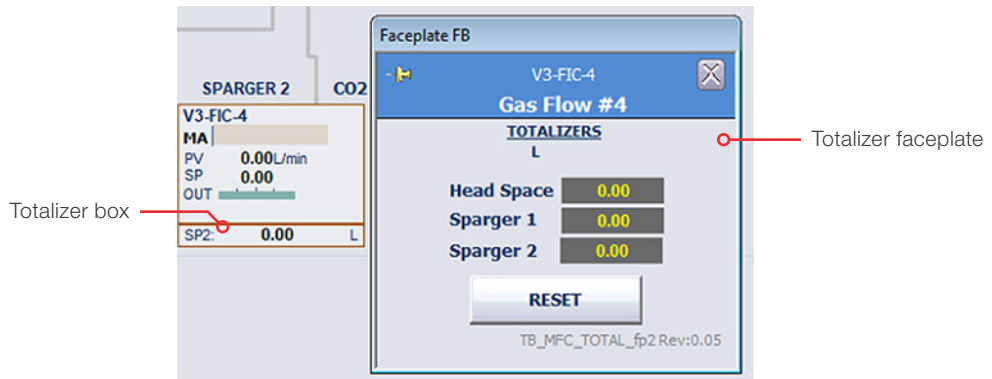

Figure 2.10. Totalizer faceplate for Gas Flow #4.
The lines connecting the control modules to the vessel represent the gas flow path. In Figure 2.10, Air and O₂ reach the vessel through the headspace flow path. There are up to three possible flow paths.
The lower portion of the control module for gases and pumps is a totalizer box (Figure 2.10). Click it to open the Totalizer faceplate. Click **Reset** when you want to reset the totals to zero (0).